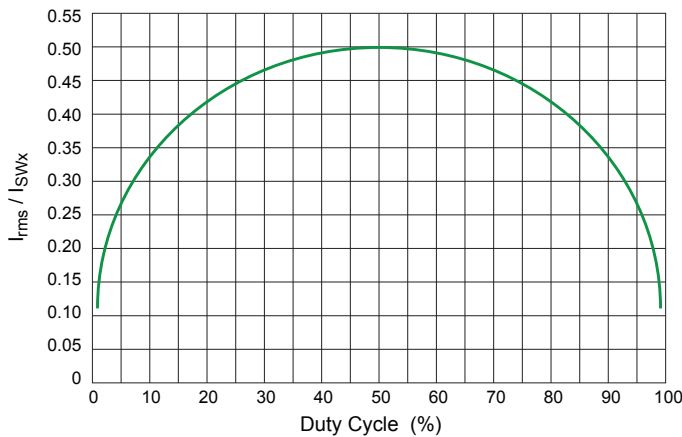

Figure 23. Input capacitor ripple versus duty cycle
Figure 23 shows the normalized input capacitor rms current versus duty cycle. To use this graph, simply find the operational duty cycle (D) on the x-axis and determine the input/output current multiplier on the y-axis. For example, at a 20% duty cycle, the input/output current multiplier is 0.400. Therefore, if the regulator is delivering 2.0 A of steady-state load current, the input capacitor(s) must support  $0.400 \times 2.0$  A or 0.8 Arms.